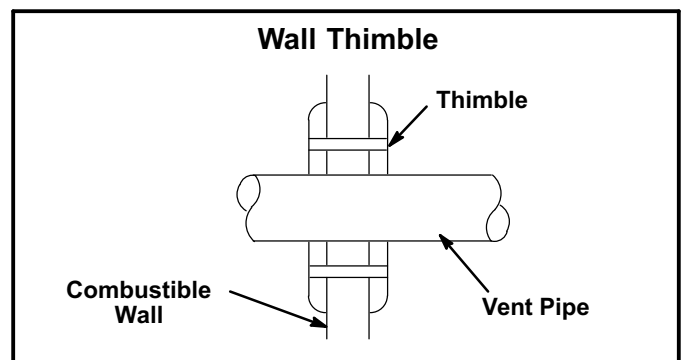

Figure 4
- 8 - The vent may pass through a wall where provisions have been made for a thimble as specified in the Standards of the National Board of Fire Underwriters. See figure 4.